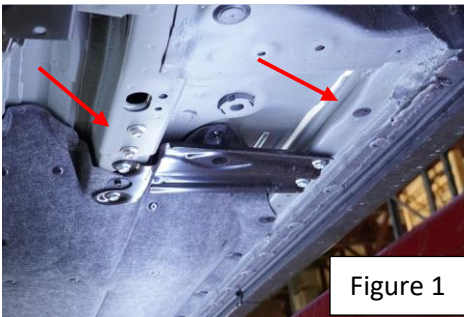
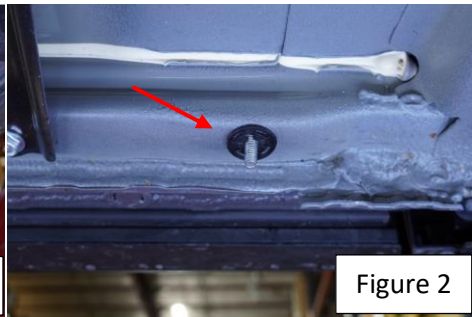
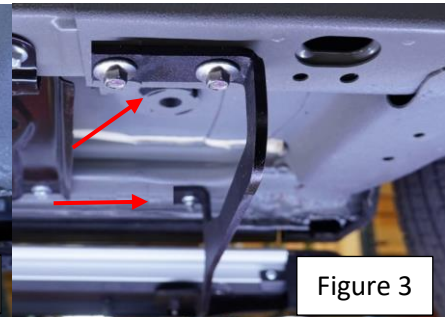

Figure 1
Figure 2
Figure 3
Step 1: Locate the front bracket position. Remove factory chassis bolts, do not discard as they are reused. Remove factory rubber plug as shown on Figure 1. Install provided HTC 226 #11 as shown on Figure 2. Proceed to install front bracket as shown on Figure 3. Attach FB1 front bracket using supplied M10 flange bolts and nuts. Due to the different CRV models choose either the high or low position to clear your factory cladding, most models will use the higher position so start here. Do not tighten.